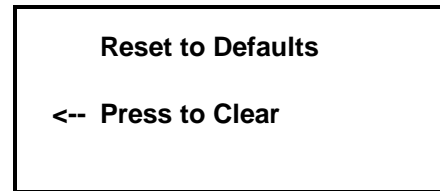

Figure 123
7. Place the Power switch to ON, clear the two information screens that appear, and the UNIT CLEANED message will be displayed. (See Figures 123, 124, and 125.)